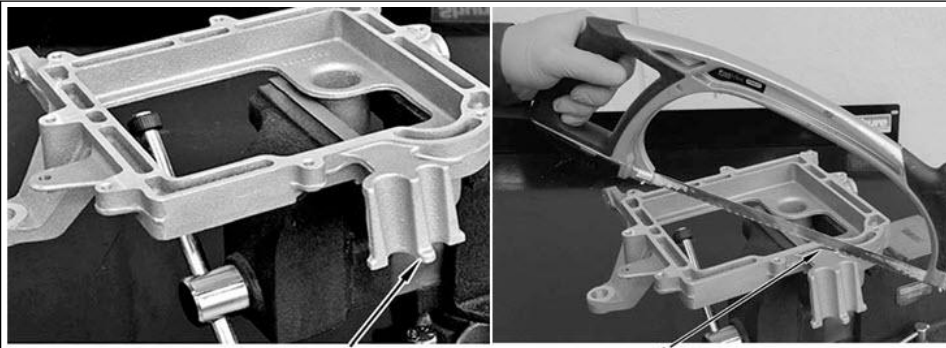

**Figure 10**
13. Remove fir-tree type push pin that secures engine harness to ECM bracket (Figure 10, item 1).